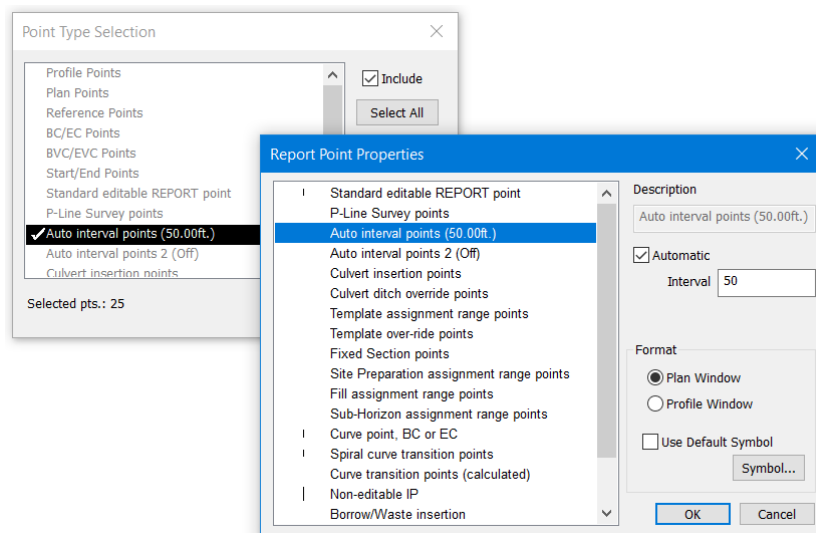

Figure 21-10: Setting the Data Window to Display Information every 50 ft
- Click the  button next to *Point Types* to open the *Point Type Selection* dialogue box (Figure 21-10 below left).
- Press the *Properties...* button to show the *Report Point Properties* dialogue box (Figure 21-10).